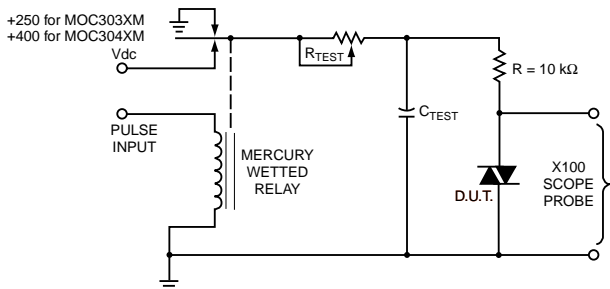

Figure 9. Static dv/dt Test Circuit
- This is static dv/dt. See Figure 9 for test circuit. Commutating dv/dt is a function of the load-driving thyristor(s) only.